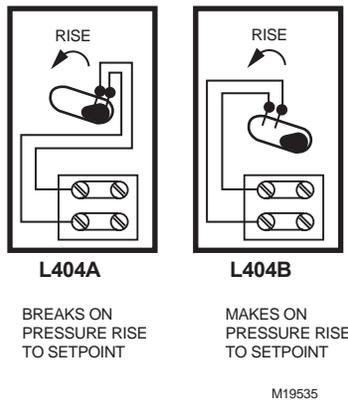

Fig. 3. L404 terminal blocks and internal schematics.
4. All models have a terminal block inside the cover (see Fig. 3) and a 7/8 in. (22 mm) hole in one side for 1/2 in. conduit, cable or wires. Remove the front cover by loosening the screw at the bottom of the main scale.